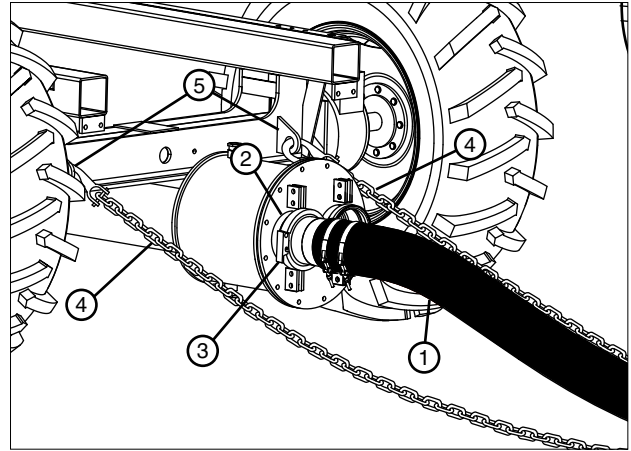

Figure 57-1 1. Soft Hose 2. Center Inlet 3. Circle Lock Ring 4. Chain 5. Anchor Bracket * Double Inlet Shown
21. Attach chains from the soft hose/poly hose connection to the anchor bracket on each side of cart. See Figure 57-1.